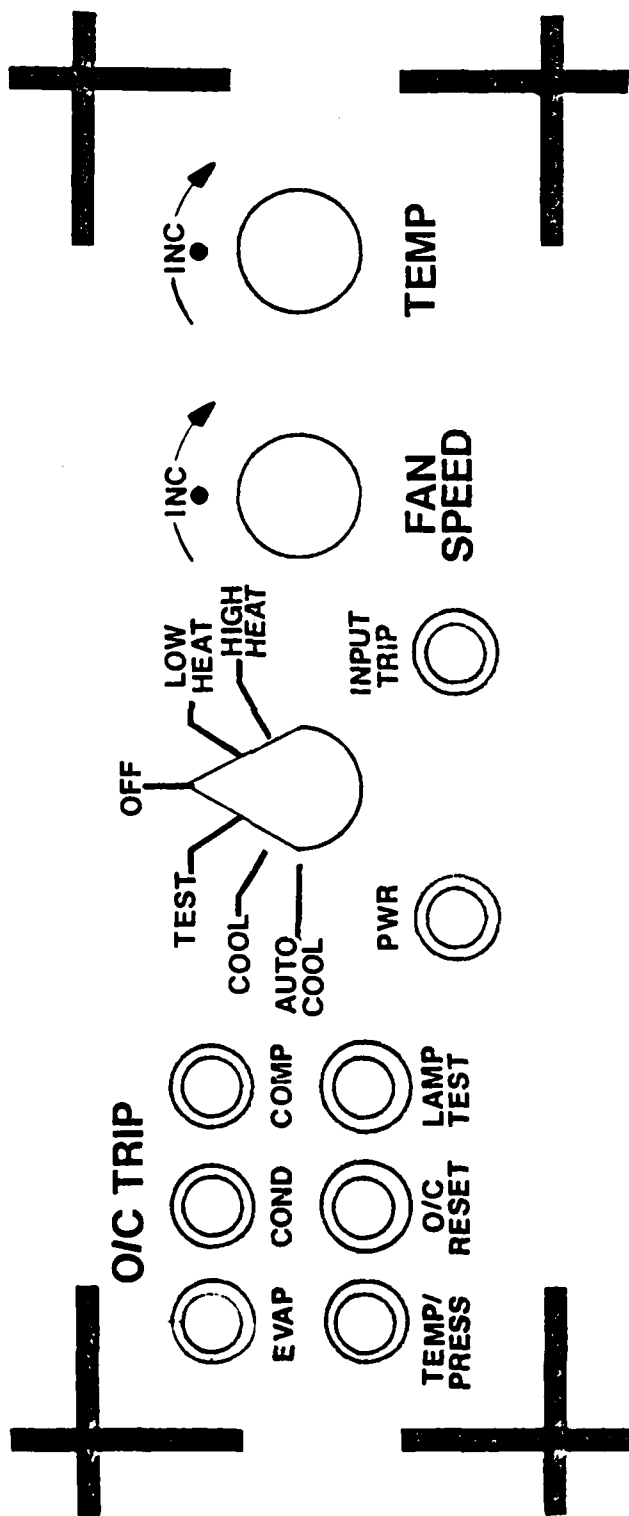

FIGURE 1-2
**B. Modes of Operation (Figure 1-2)**